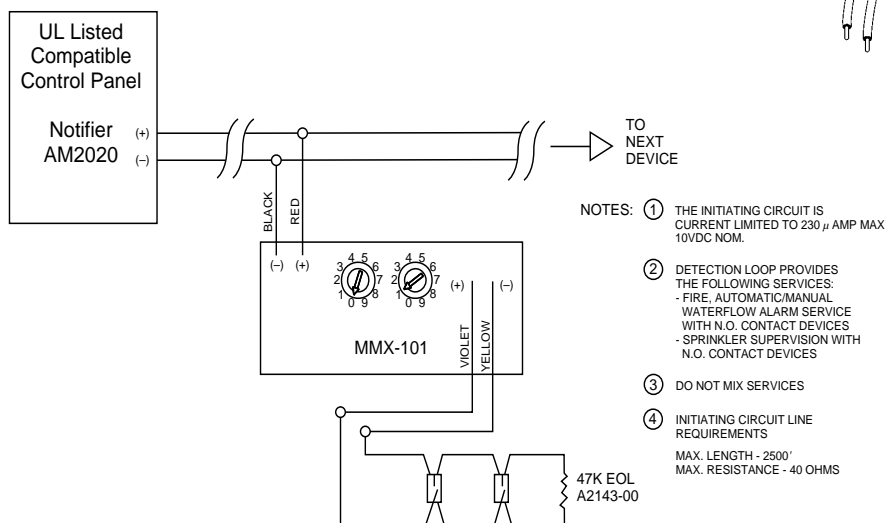

Figure 2.
1. Connect the red and black wires to the positive (+) and negative (-) loop power leads of the control panel signaling line circuit (SLC), as indicated in Figure 2.